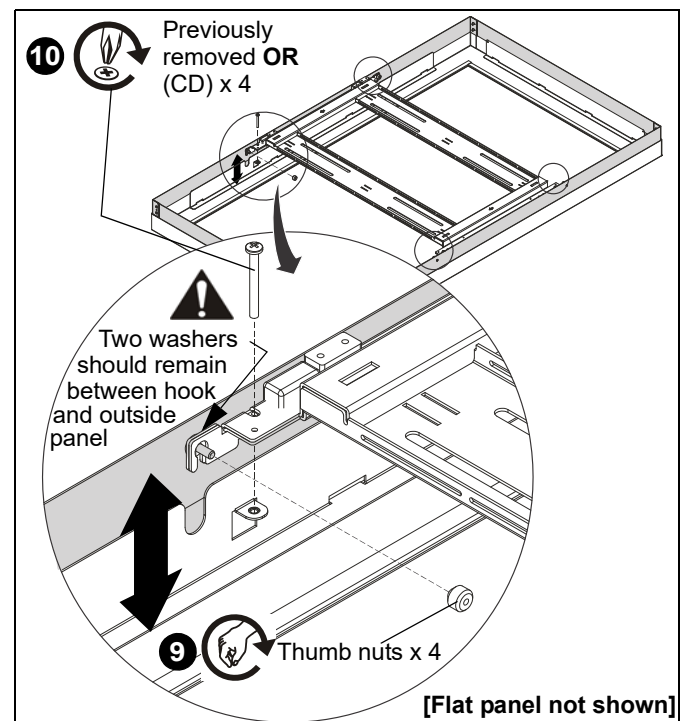

Figure 9
NOTE: The outer frame depth may be adjusted between 3" - 5" to make room for a variety of different flat panel thicknesses. (See Figure 9)
9. Tighten thumb nuts over threaded studs in four locations on the hinged frame. (See Figure 9)
10. Replace and fasten four Phillips screws which were removed in Step 1, **OR** replace the removed screws with four 10-24 x 2-3/4" Phillips head screws (CD) to allow for a larger depth adjustment of the outer frame. (See Figure 9)